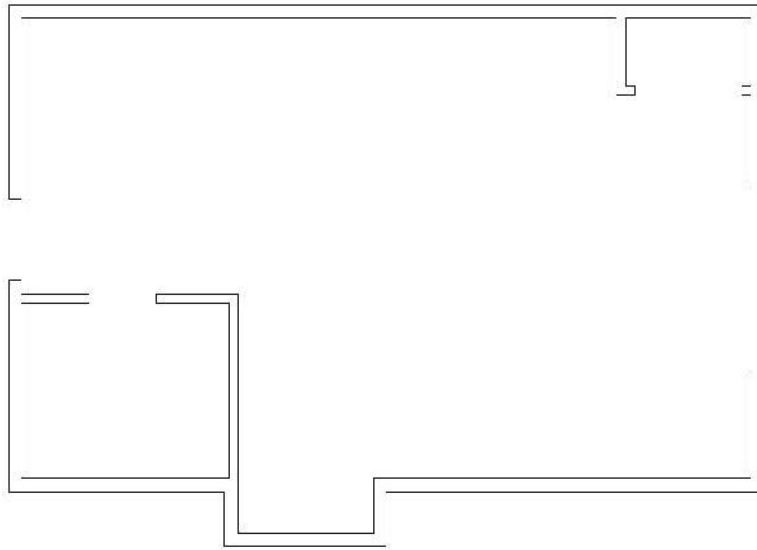

FIGURE 4.38: The completed doorway openings
3. This completes the openings. Save your drawing as **I04-11-ClosetOpening.dwg** (**M04-11-ClosetOpening.dwg**). The results should look like Figure 4.38.